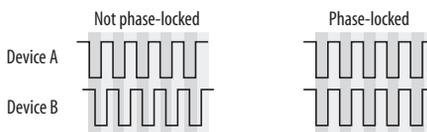

Figure 4-14: When transferring audio, two devices must have phase-locked audio clocks to prevent clicks, pops or other artifacts.
- Synchronizing the 828mk3 with other digital audio devices so that their digital audio clocks are *phase-locked* (as shown in Figure 4-14)